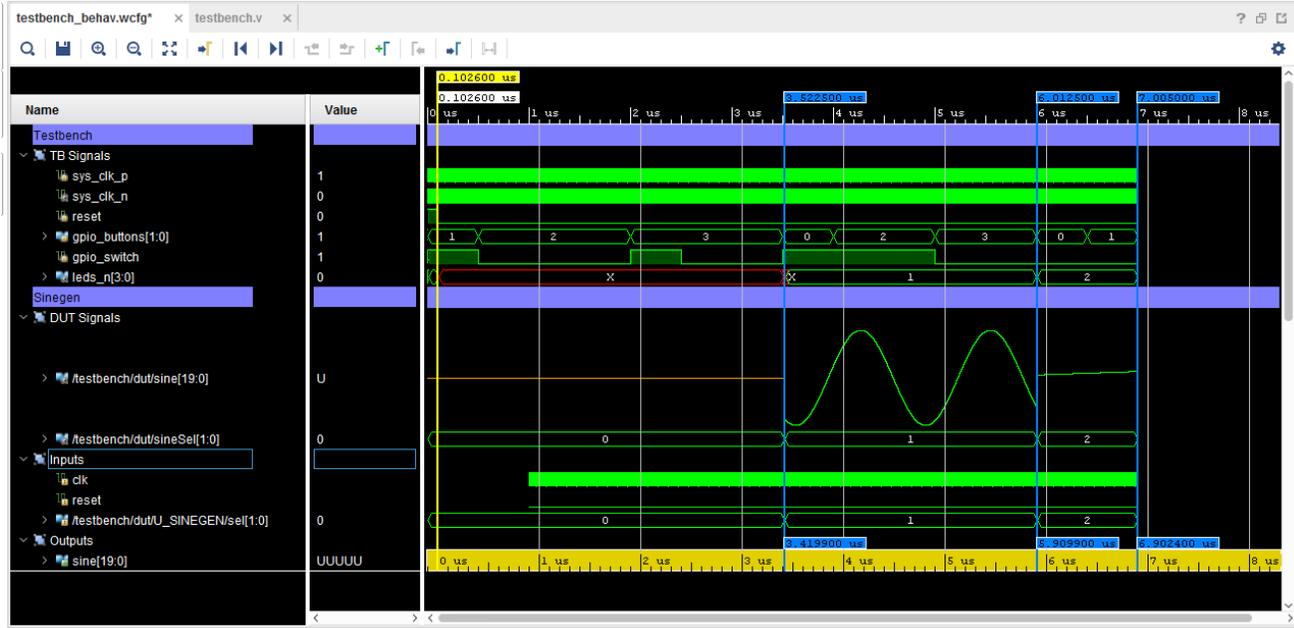

Figure 27: Measuring Time in the Waveform
- Because 0 is the initial or default FSM output, move the cursor to the first posedge of `sys_clk_p` after reset is asserted low, at time 102.5 ns, as seen in Figure 27.
As shown in Figure 27, the ruler measures a time period of 3.420 ns as the period that FSM selected the low frequency output.